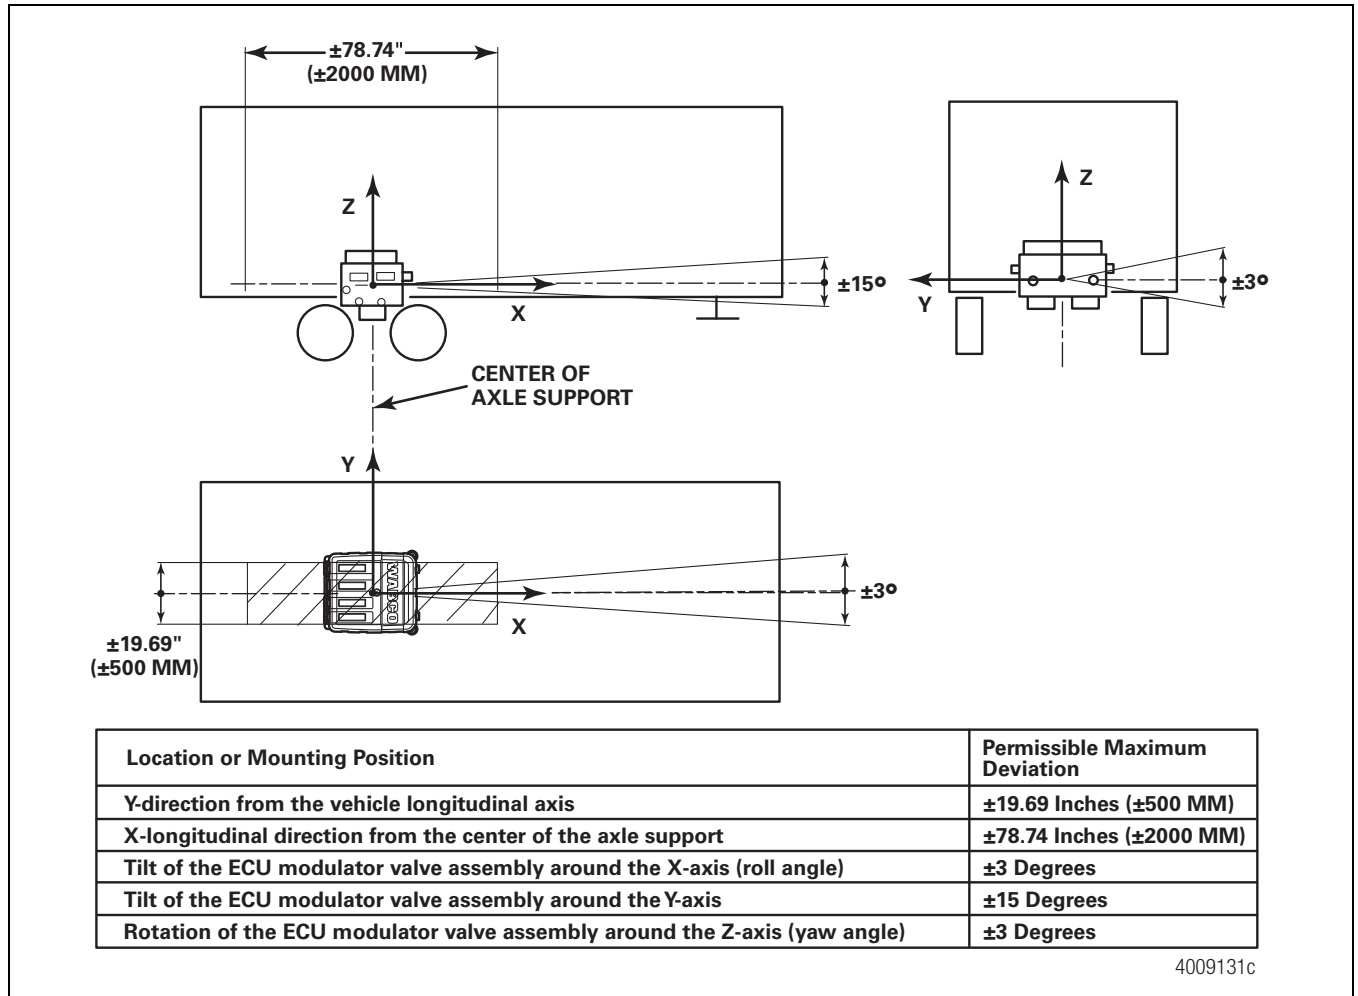

Figure 6.6
When mounting the ECU modulator valve assembly to the trailer cross member, refer to SAE specification J447, *Prevention of Corrosion of Motor Vehicle Body and Chassis Components*. Follow all recommendations and procedures. Your supervisor should have a copy of this specification. Figure 6.6.
- Mount the ECU modulator valve assembly in the center width of the trailer subframe, midway between the axle spacing. Figure 6.6.